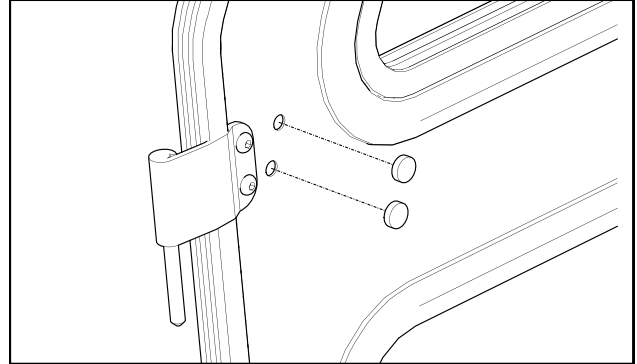

Fig. 2.1
- 2.1 Remove rubber plugs from doors in location shown in figure 2.1.